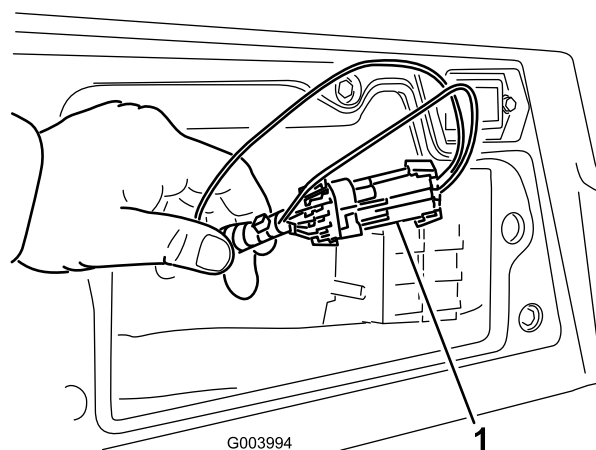

Figure 49
3. Locate the wire harness and connectors near the controller (Figure 49).